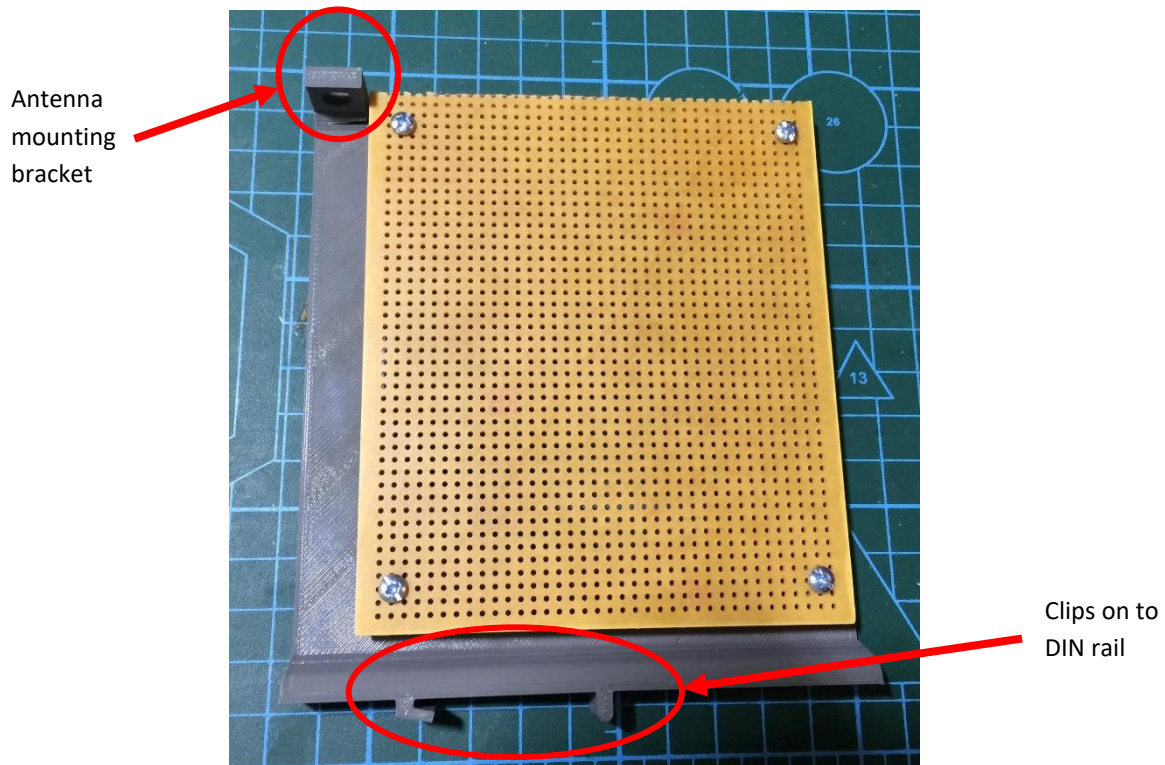

Figure 19 – Test fit of blank board on mounting plate
- Do a test fit as shown in FIGURE 19 – TEST FIT OF BLANK BOARD ON MOUNTING PLATE. Use the four 2.5mm machine screws to secure the blank circuit board to the mounting plate. Note, do not exert too much force as the screws are going into plastic. (ABS)